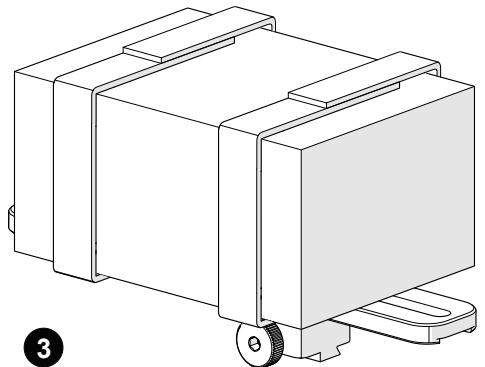

Fig. 85 - Mount bracket on a frame bar
3. Secure the preamp to the bracket, attaching each side of the velcro (Fig. 85).